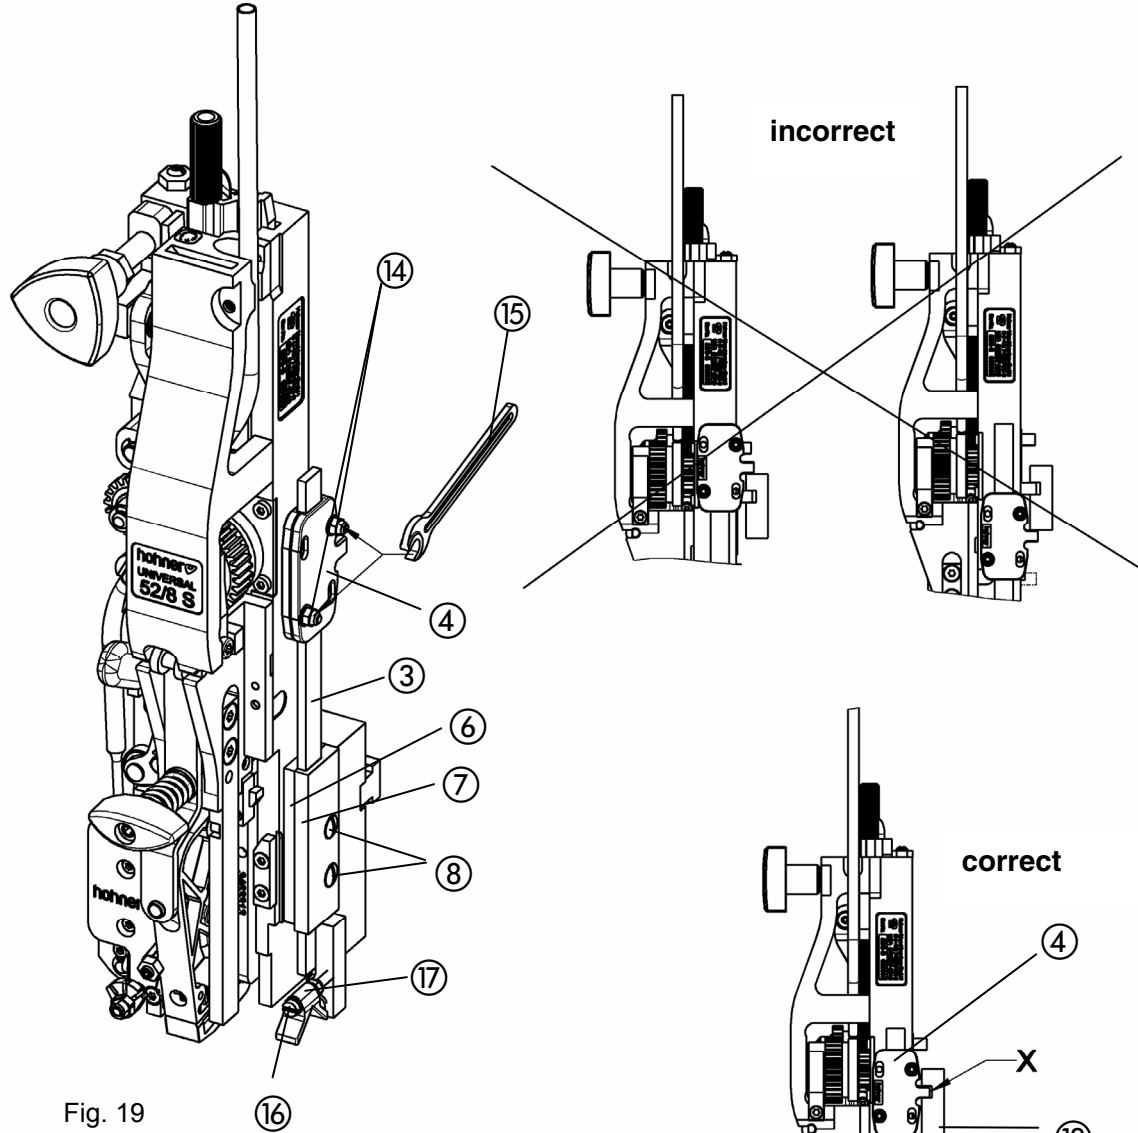

Fig. 19
- Fig. 19 -
- Put centering device rods ③ with carrier ④ between distance plate ⑥ and guide plate ⑦ (plates and rods should be slightly lubricated).
- Screw in screws ⑧ through the plate holes in the thread on the housing and tighten screw; the rods ③ should be parallel with the housing edge.